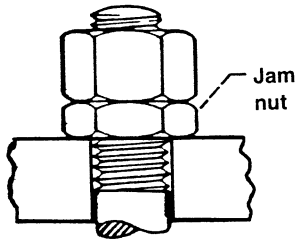

Figure 7.—Jam nut.
**Jam nuts.**—These nuts are normally “jammed” together as shown in figure 7, although the “experts” cannot agree on which nut should be on the bottom. However, this type of assembly is too unpredictable to be reliable. If the inner nut is torqued tighter than the outer nut, the inner nut will yield before the outer nut can pick up its full load. On the other hand, if the outer nut is tightened more than the inner nut, the inner nut unloads. Then the outer nut will yield before the inner nut can pick up its full load. It would be rare to get the correct amount of torque on each nut. A locknut is a much more practical choice than a regular nut and a jam nut. However, a jam nut can be used on a turnbuckle, where it does not carry any of the tension load.